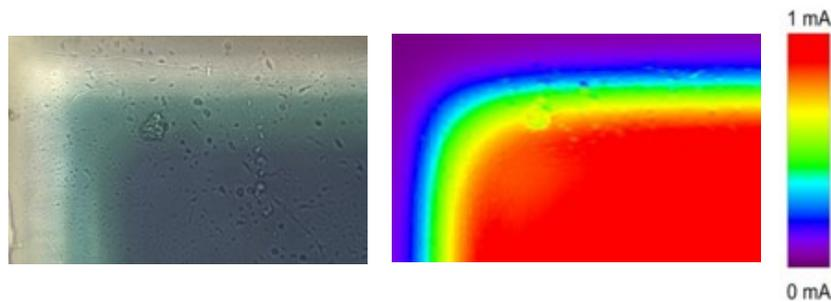

Fig. 1: Left: Video image, Right: current distribution
- According to these zones, the measured photo current shows the expected behavior. 0 mA at the frame, up to approx. 1 mA in the center of the active zone. Fig. 1 shows an example of the upper left edge.